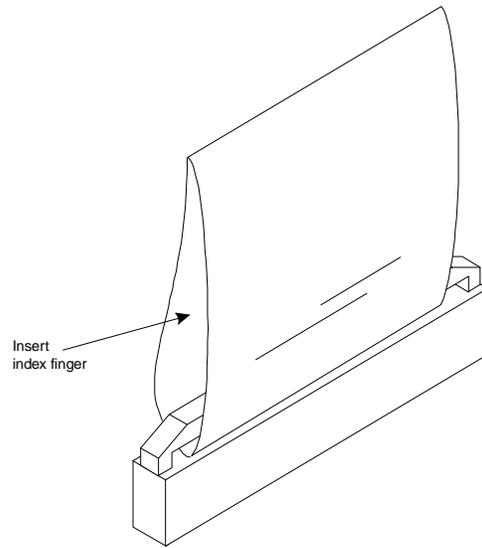

Figure 7-25. Signal Processor/Companion Connector Loop
4. Insert your index finger into the plastic loop (Figure 7-25) and hold the card steady with your free hand.
1. Insert a finger into the flexible plastic loop (Figure 7-25).